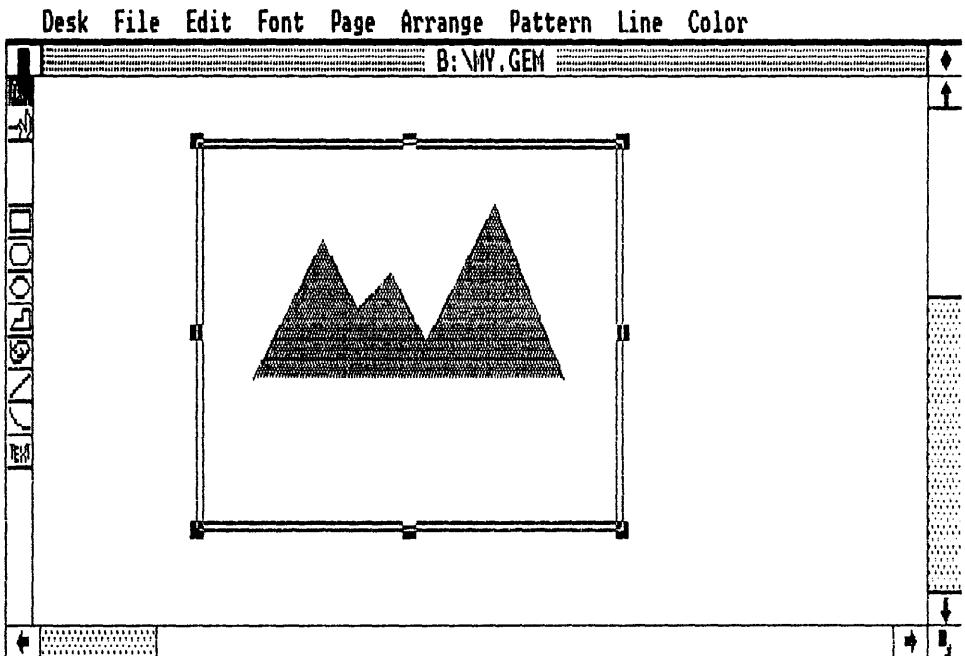

Fig. 4-11. Designing a symbol for use in a GEM Graph Symbol Graph. The Group command is used for making all of the elements current.
- Choose the **Group** command. The entire symbol and box are a single element (Fig. 4-11).